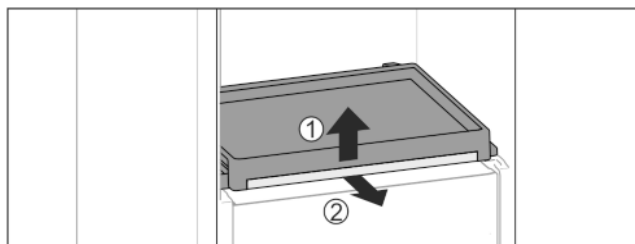

Fig. 36
- To remove the pull-out board with glass panel: Gently lift the glass panel at the front Fig. 36 (1) and pull out to the front Fig. 36 (2).